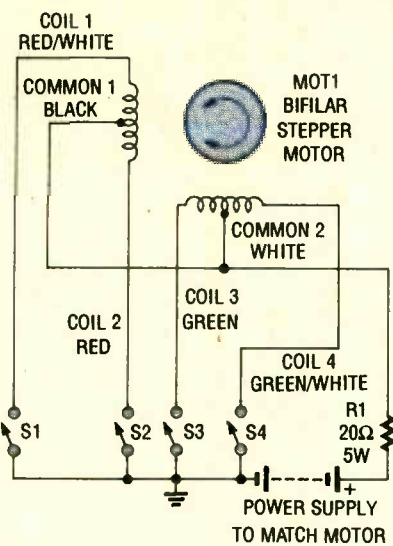

Fig. 2. A stepper motor contains two center-tapped windings. If you actuate those windings in the right sequence the rotor will rotate.
Figure 2 contains a schematic for a typical stepper motor. By applying voltage to the four coils in a prescribed manner, the motor will step. Different stepper designs require different sequences of coil activation, but a common sequence is listed in Table 1. Energizing the coils in that sequence will cause the rotor to step in one direction; reversing the sequence will cause it to step in the opposite direction. Keeping any two of the coils energized will cause the rotor to brake. Many times the rate at which the coils are switched is varied to slowly bring the motor up to speed, or to gradually slow it down. This acceleration/deceleration process, known as "ramping," is often used when a motor has a very heavy load.
**Finding a Motor.** Surplus stepper motors are available from a variety of sources. Mail-order catalogs, electronic parts shops, and computer/amateur-radio flea markets are good places to start looking. Junked disk drives will often yield a usable motor, as will old printers. There are several different types of stepper motors, each requiring a different type of drive circuitry. The simplest configuration (from the driver standpoint) was shown back in Fig. 2. That is known as a
Once the "common" leads are located, it becomes necessary to determine which of the other coil leads is which. The easiest way to do this is by connecting the motor as shown back in Fig. 2. Adjust a power supply to the voltage value stated on the motor's nameplate and connect it as shown. Switches S1 through S4 don't need to be actual switches—two clip-tipped leads will work just fine. The 20-ohm resistor is used as a dropping resistor in most motor circuits. It prevents the motor from overheating when braking.